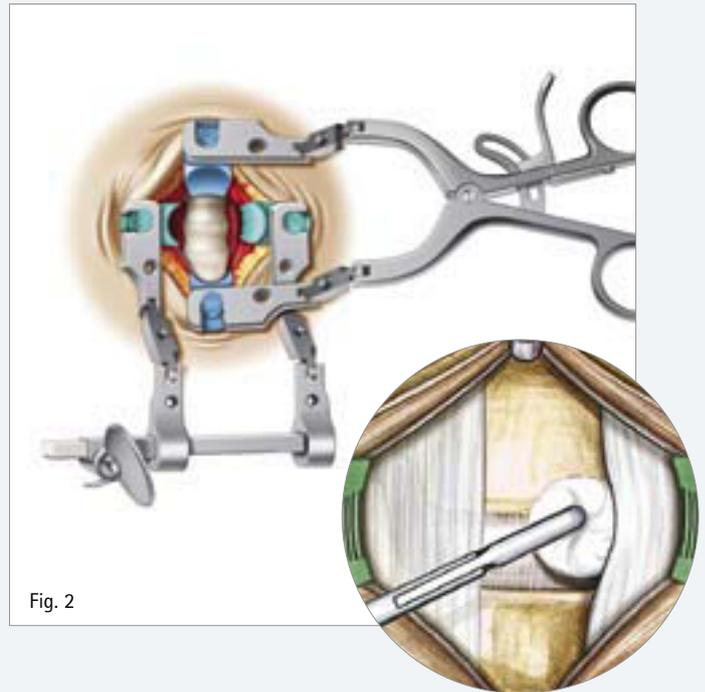

Fig. 2
Exposure of the Intervertebral Space (Fig. 2)
- After the skin incision and preparation, the CASPAR Cervical Retractor is applied (Fig. 2). The blades are available in PEEK and Titanium. A counter retractor can be used. The subcutaneous tissue is separated from the platysma cranially, caudally and medially, and the platysma is also separated following the direction of its fibers. The margins of the platysma can be held apart with the retractor or with two surgical forceps.